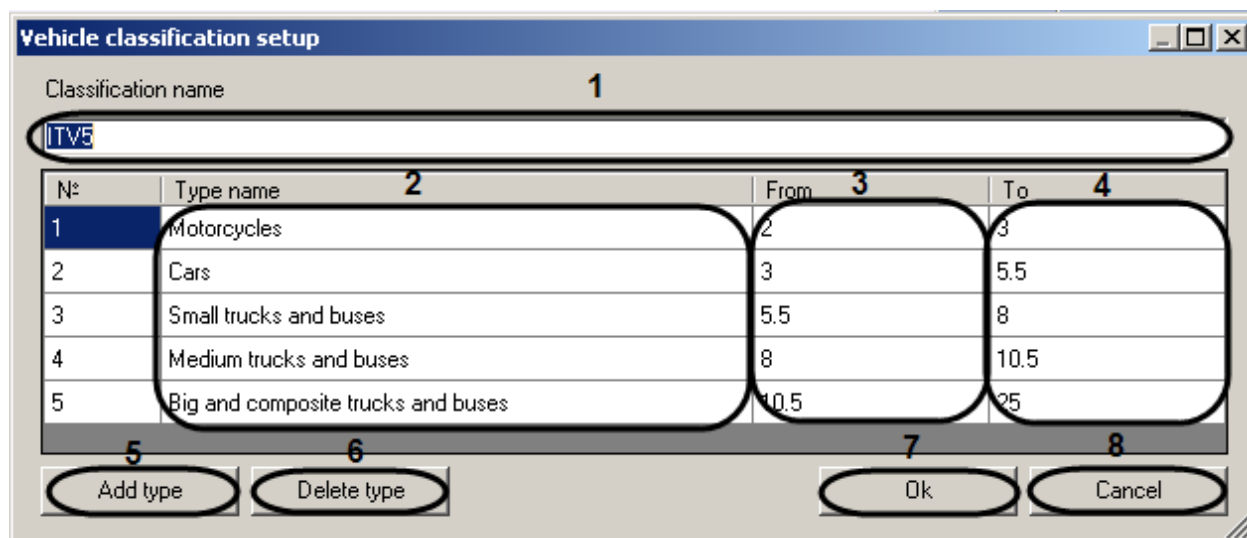

Fig. 7.7—13 Setting up the classification of vehicles according to its length
4. In the «Classification name» field (Fig. 7.7—13, 1) enter the name of vehicle classification that is being setup.